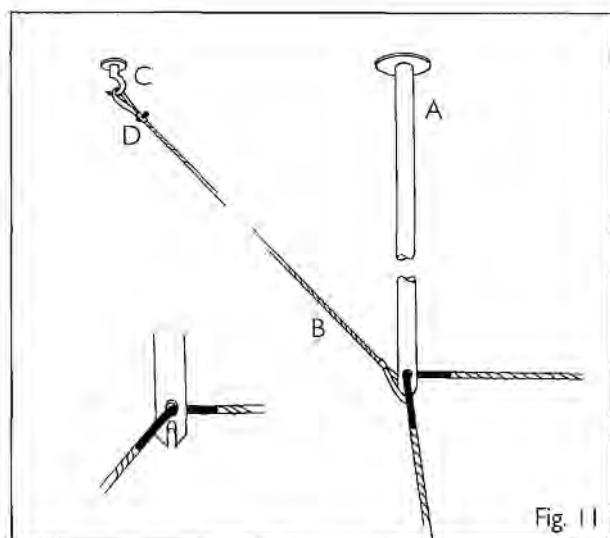

Fig. 11
(See Fig. 11) Determine the position of the rods (A), in accordance with the course of the cables (the distance between the cables should be at least 75 cm). Using an 8 mm masonry bit, drill an exactly vertical hole, at least 4 cm deep, for each rod. Insert the peg and screw the rod into the hole, using the washer. Tighten the rod with the assembly pin.